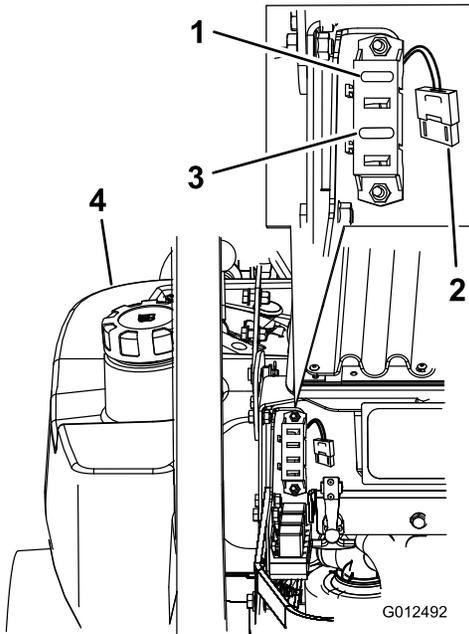

Figure 72
1. Unlatch the engine hood and raise the engine hood to gain access to fuse holder (Figure 72).
3. Install a new fuse (Figure 72).